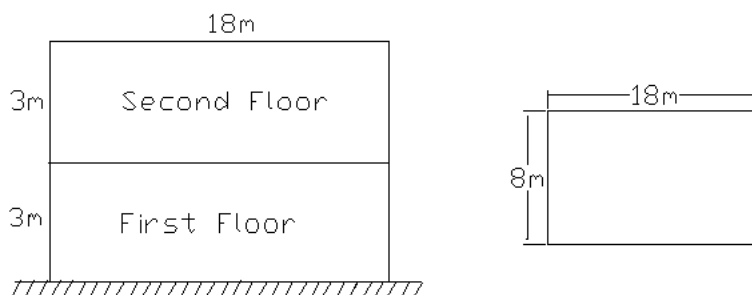

Figure 2
10. Determine the lateral forces on a two storey unreinforced brick masonry building as shown in Figure 2 situated in Allahabad (zone III) for the following data : Weight of Roof = 2.5 kN/m^2 , weight of wall = 5.0 kN/m^2 , Live load on roof = 0 and Live load on floor is 1.0 kN/m^2 . $I = 1.0$ and $R = 1.5$. Type of soil is medium soil. [14M]